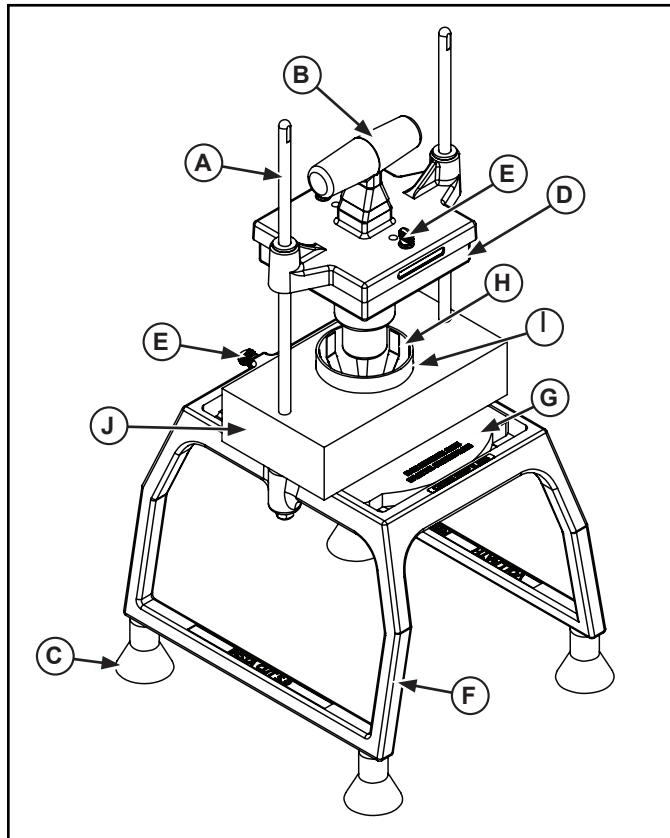

Figure 1. Features and Controls Cucumber Slicer.
Install the feet (C) securely to the base assembly (F). See Figure 1.
2. Before each use, always check for proper blade alignment. Slowly set the pusher head block (D) onto the blade assembly (G). See Figure 1. They should slide together with no obstructions. If there are obstructions, verify they are a matching set.
4. Lift the handle (B) and place the food on the food holder (H).
5. Remove hand from the blade assembly (G) area and place that hand on the base assembly (F).
6. Using a strong, quick, downward thrust, force the food product through the blade assembly (G).
1. Remove the handle (B) and pusher block (D) from the guide rods (A). See Figure 1.
2. Remove the base assembly (F) and blade assembly (G).
3. Install new blade assembly (G) and secure with thumbscrew (E).